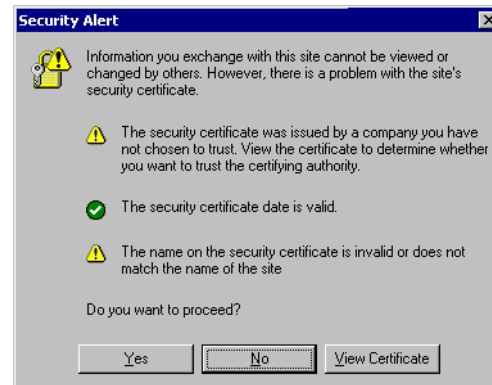

Figure 12. Security Alert dialog box
- 8 If you elect to launch the web interface, a Security Alert may appear, as shown in Figure 12. Click **Yes** continue.